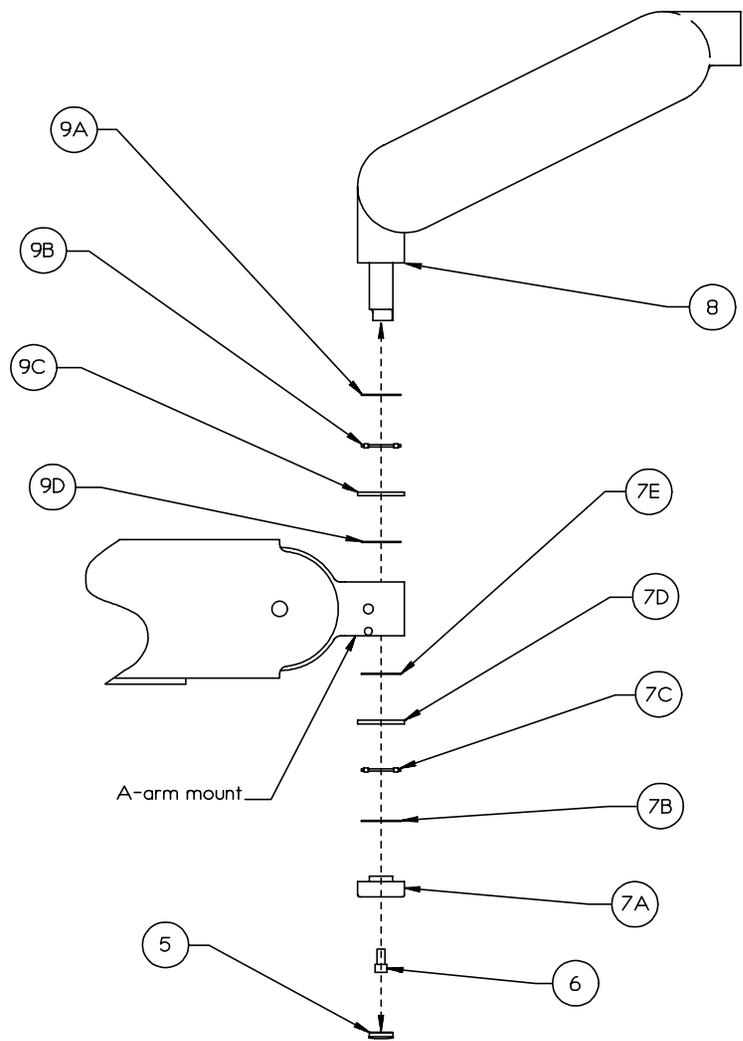

Figure 7
5. Using a blade screw driver or similar tool, remove the molded hole plug from the shaft cap, located on the bottom end of the A-Arm mount. See Figure 7 (next page).
6. Remove the 1-inch long hex screw from underneath the end of the A-Arm mount. (This hex screw installs up through the Secondary Arm's Rotation Pin to secure the Secondary Arm to the A-Arm mount.) See Figure 7 (next page)
- E. top bearing thrust washer. See Figure 7 (next page).
8. Lift up the Secondary Arm, slide its Rotation Pin up through the A-Arm mount and remove Secondary Arm from the A-Arm mount. See Figure 7 (next page).
- D. bottom bearing thrust washer. See Figure 7 (next page).